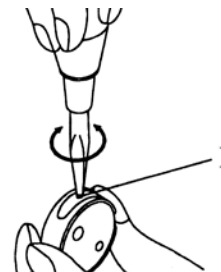

Fig. 12
B. Bobbin thread tension adjustment, fig. 12: